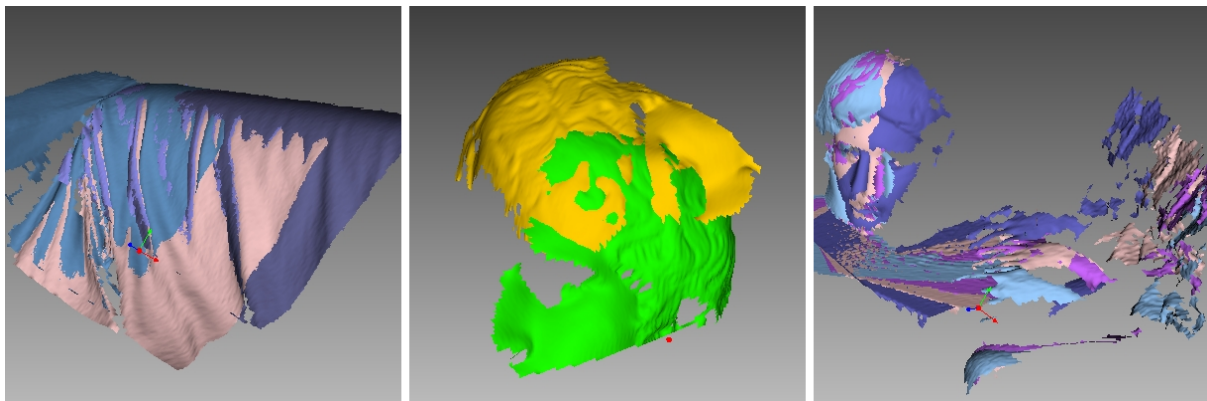

Figure 129: Possible scan errors.
- Misaligned frames (see Figure 129, left)—may occur because of small size, an insufficient number of geometrical features on the object or an insufficient number of polygons in a frame.
- Misaligned parts (see Figure 129, middle)—occurs when the real-time alignment algorithm incorrectly determines the position of the new frame relative to previous ones.
- Unwanted objects in the frame (see Figure 129, right).